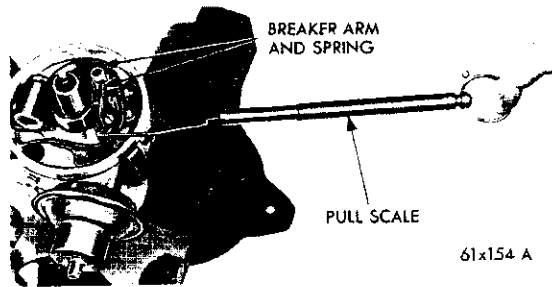

Fig. 87—Testing the Breaker Arm Spring Tension
(1) Hook a spring scale Tool MTU-36 on the breaker arm and pull in a straight line at right angles to the point surfaces (Fig. 87). Take a reading as the points start to separate under the slow and steady pull of the scale. The spring tension should be 17 to 21.5 ounces. If the reading is outside these limits, loosen the screw which holds the end of the breaker arm spring, and slide the end of the spring in or out, as necessary.
(2) Tighten the screw and measure the spring tension.